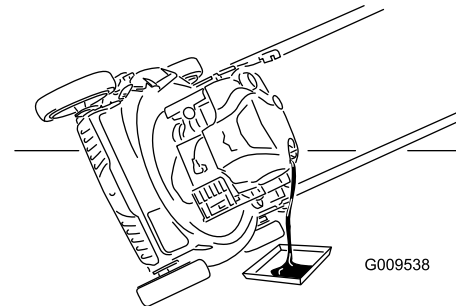

Figure 23
7. Tip the machine onto its side, with the oil-fill tube down, to drain the used oil through the oil-fill tube into the oil-drain pan (Figure 23).